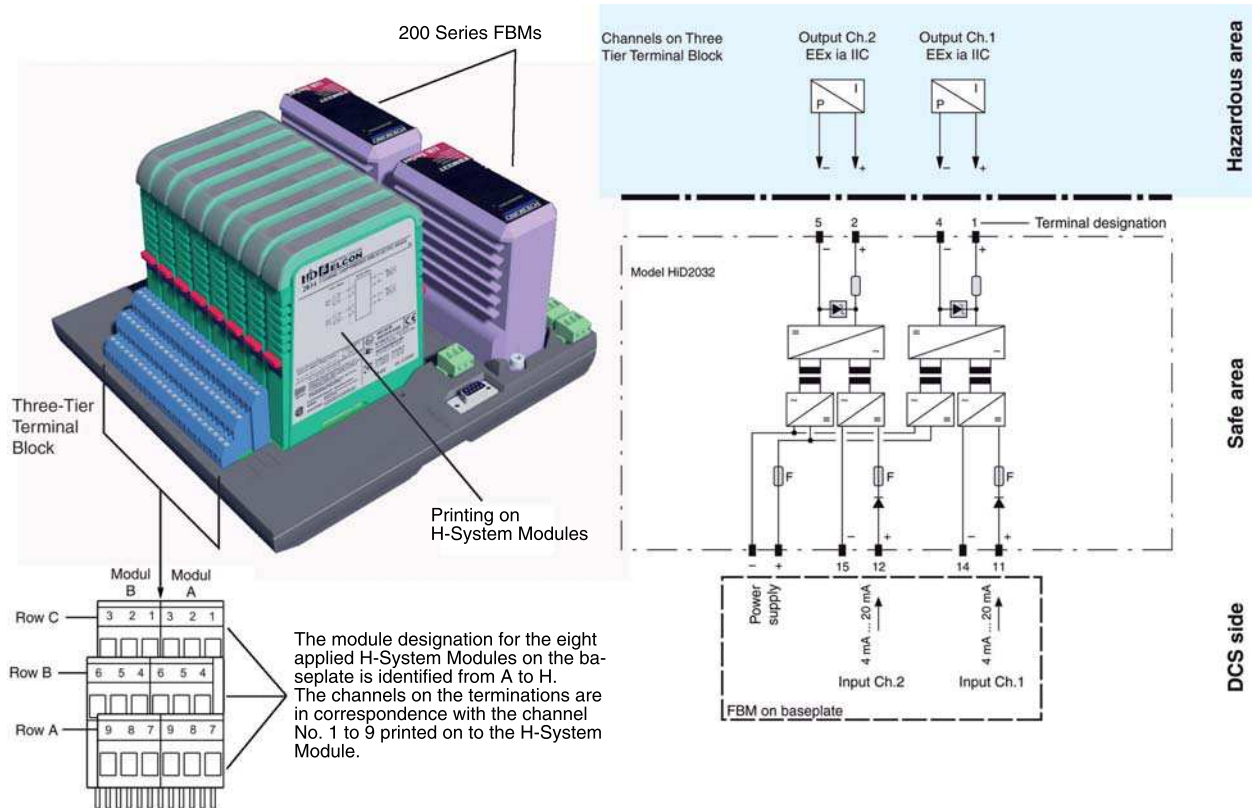

Figure 4-1. Field wiring to ISTA-*BP* Connections showing the terminal blocks per module
Field wiring connects to the ISTA-*BP*, as illustrated in Figure 4-1:
2. For the terminal assignment of the H-System Module, see the details in Figure 4-1 or please refer to:
5. For the HiD2032 two channels can be connected as follows. Channel 1 with 1+ and 4- and channel 2 with 2+ and 5-. Please also see the details in Figure 4-1.
6. Turn the appropriate screw counter-clockwise sufficiently to allow field wire to be inserted. Slip the exposed end of each field wire into its appropriate screw terminal, and secure by turning the associated screw clockwise until the terminal firmly makes contact with the wire. The screw terminals and their respective designators are shown on a typical termination assembly in Figure 4-1.